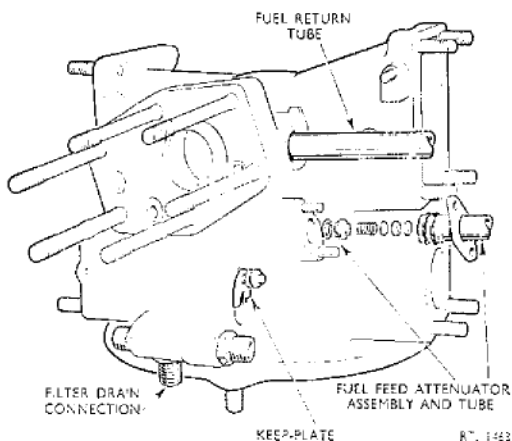

Fig. 8. Fuel feed and return connections to B.P.C. (F.C.U. type BA.61076, BA.60351, BA.62403, BA.73323)
51. To ascertain the positional fitting of the parts referred to in this paragraph, see fig. 8. With the spacing washer interposed, insert the two orifice plates into the B.P.C. fuel feed attenuator tube, insert the spring and the spring seating plug and secure the assembly